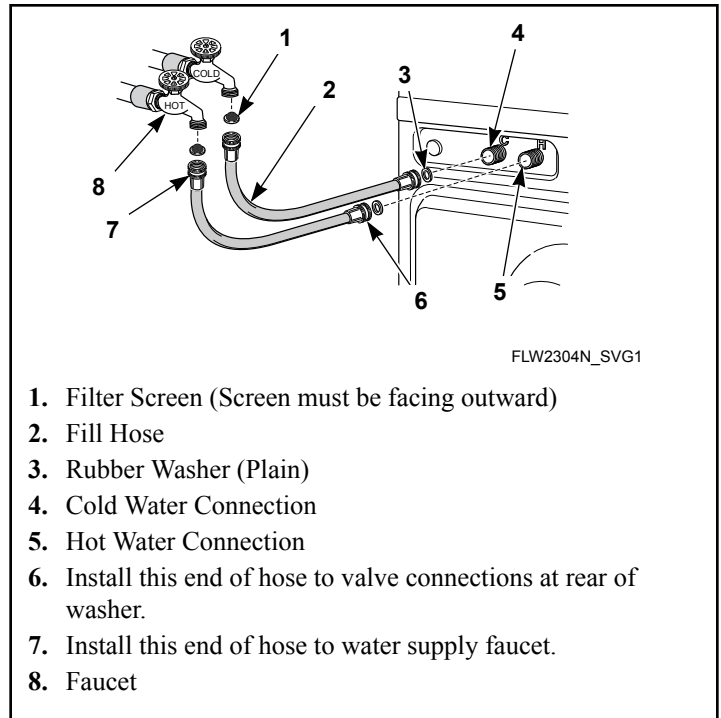

Figure 6
2. Install them into each end of the fill hoses as shown in *Figure 6*. The screen must be facing outward.
the cold faucet goes to the valve marked “C”. Refer to *Figure 6*.